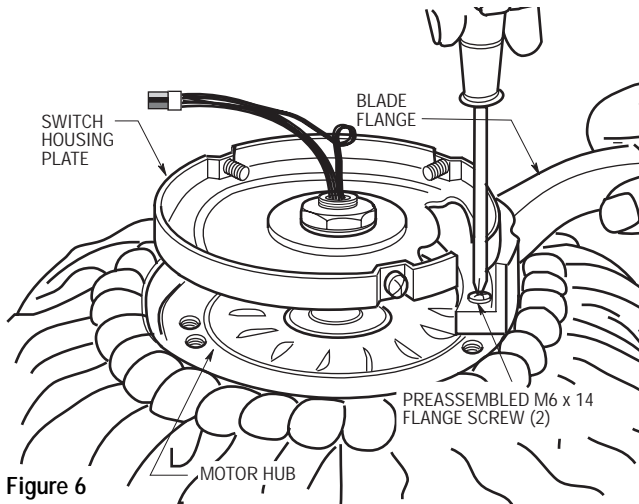

Figure 6
- 10. Rotate the motor hub until the flange screw hole is next to the cutout in the switch housing plate. Loosely attach one blade assembly to the motor hub using two M6 x 14 flange screws with lockwashers preassembled in flange. Make sure the screws are **NOT** tightened. (Figure 6.) Repeat this procedure for the other four blade assemblies.